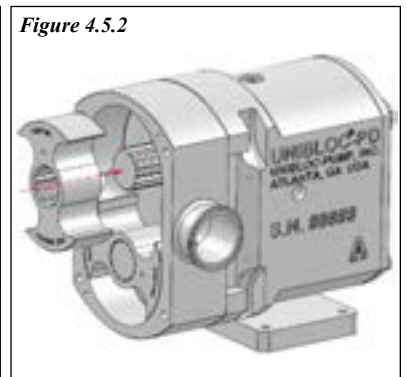

Figure 4.5.2
Insert the shim rings (11) into the front bores of the bearing housing (6). Oil the front (9) and rear (10) bearing cones and tap them into the bearing housing so that the tapered edge can be seen when looking into the bearing housing. If the bearings have been removed from the shafts, they must be pressed on with a hydraulic press before the shafts are installed into the bearing housing. Oil the shafts at the bearing seat location and slide the bearings on so that the text on the bearing shoulder will make contact with the shaft shoulder. Use extreme caution to not damage the bearing components or the splined shaft end when using the hydraulic press. Place a nonmetal object between the splined shaft end and the hydraulic press to prevent damage to the shaft. Insert both shafts and stand the pump on the splined ends. Slide the rear bearings on, tap the keys (21) into place, and then slide on the gears (8), shoulder side towards the bearings. Make sure the timing marks are aligned. Tap on the gears to seat the bearings properly. Slide on the tabwashers (12) and thread on the slotted nuts (13). If using **DuraCore™** rotors, assemble (Figure 4.5.1) the rotors (3b) before sliding the rotors onto the splined shaft end (Figure 4.5.2). Place a nonmetal object between the rotors to keep the shafts from turning. Tighten the nuts so that the shaft rotating torques shown in section 5.3 are achieved. Lock the nuts in place by bending the tabwasher into the slots in the nut. Install the front oil seals (23) by first lubricating with oil all contact areas on the shafts and bearing housing. The text on the seals should face out. Push the seals on with a sleeve flush with the bearing housing. Stand the pump on the splined ends and fill the bearing housing cavity with approved oil listed in section 5.3. Place the oil seal(s) (24; 24 & 45 for UNIBLOC 200-275) in the bearing housing cover, text side out. Place the o-ring (25) into the groove on the rear side of the bearing housing. Slide the cover onto the drive shaft taking care not to damage the oil seal lips. Secure the cover with the bolts (18). Tap key (22) into place. Install the shaft seals and rotor housing as described in section 4.4.